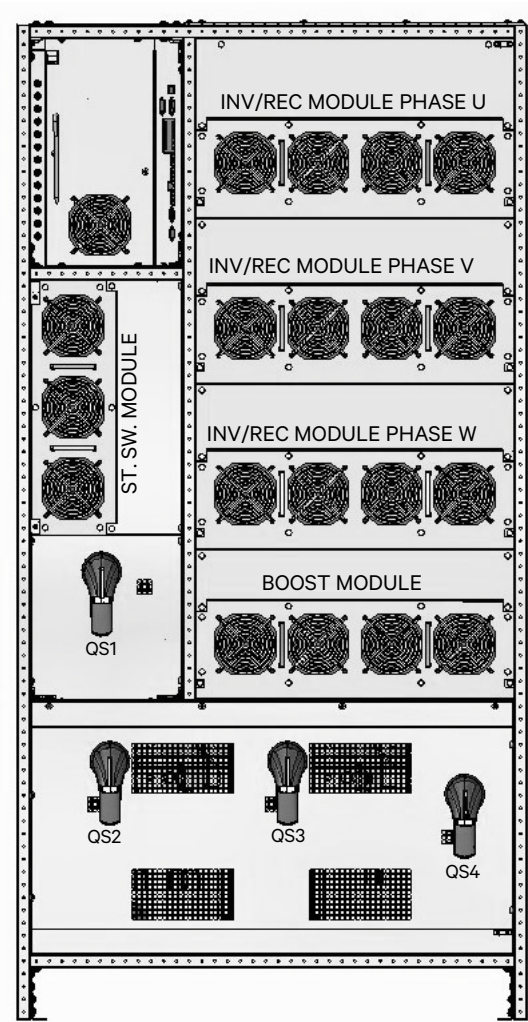
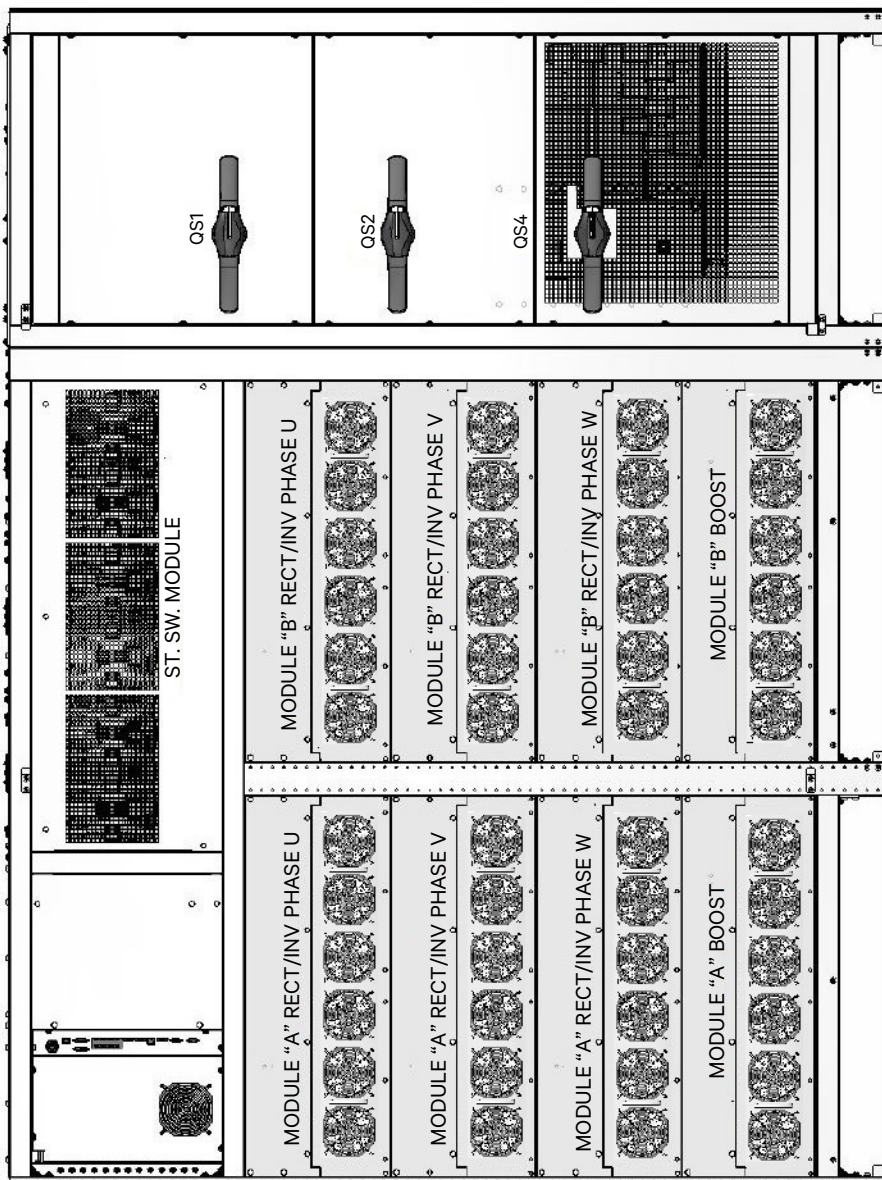

Figure 19 - Liebert EXL S1 300/400kVA - front view
Figure 22 - Liebert EXL S1 1000/1200kVA - front view
To access the external electrical connections, open the front door of the UPS and remove the secondary access panel (see Fig. 19-Fig. 22). Connect the ground cable (PE) first at \oplus .